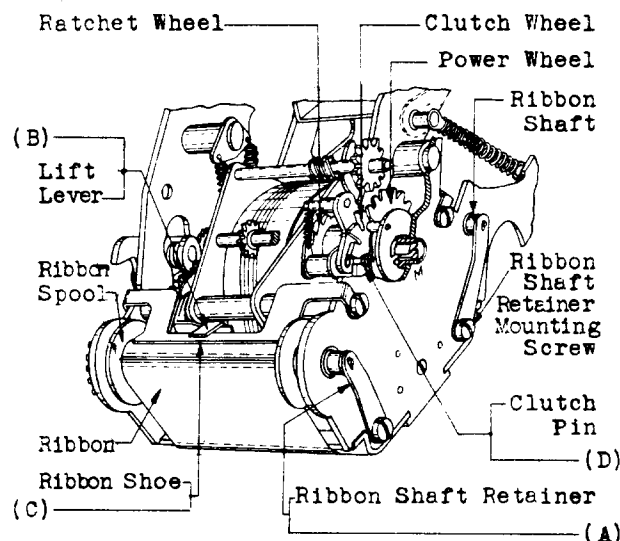

Fig. 5
2.10 Tension of Ribbon Shaft Retainer - Fig. 5 (A) - The tension of the ribbon shaft retainer shall be sufficient to hold the ribbon shaft in position but shall not be such as to interfere with the free movement of the ribbon spool. Gauge by eye and feel.
2.13 Tension of Lift Lever - Fig. 5 (B) The lift lever shall be tensioned against the ribbon shoe sufficiently to hold the shoe against the ribbon. Gauge by eye and feel.
2.14 Position of Ribbon Shoe - Fig. 5 (C) The ribbon shoe shall lie flat against the entire width of the ribbon. Gauge by eye.
2.15 Engagement of Clutch Wheel and Power Wheel - Fig. 5 (D) - The tension of the clutch spring shall be sufficient to allow the clutch wheel and power wheel to re-engage after these parts have been manually disengaged and the clutch wheel is allowed to restore unrestrained. Gauge by eye and feel.